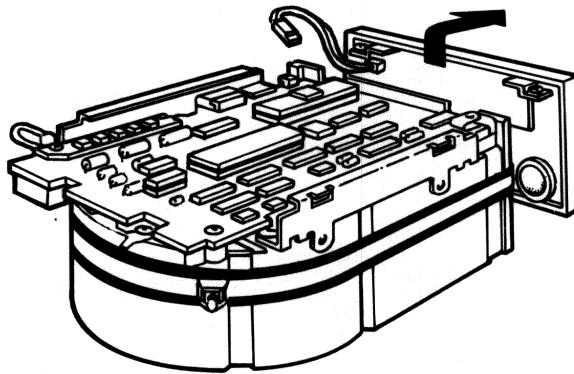

Figure 6-7 Front Bezel Removal (RD52)
4. Remove the front bezel by pulling it away from the drive. The bezel is held in place with pop fasteners. (Figure 6-7)